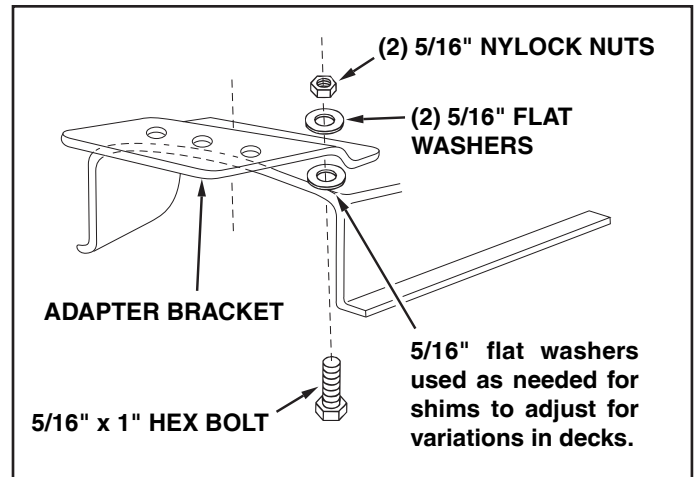

FIGURE 27
- Assemble the adapter bracket to the deck using two 5/16" x 1" hex bolts, 5/16" flat washers and 5/16" nylock nuts. See figure 27.
NOTE: It may be necessary to use extra 5/16" flat washers to shim under the bracket next to the deck surface. Ten extra washers have been furnished as shims. See figure 27.